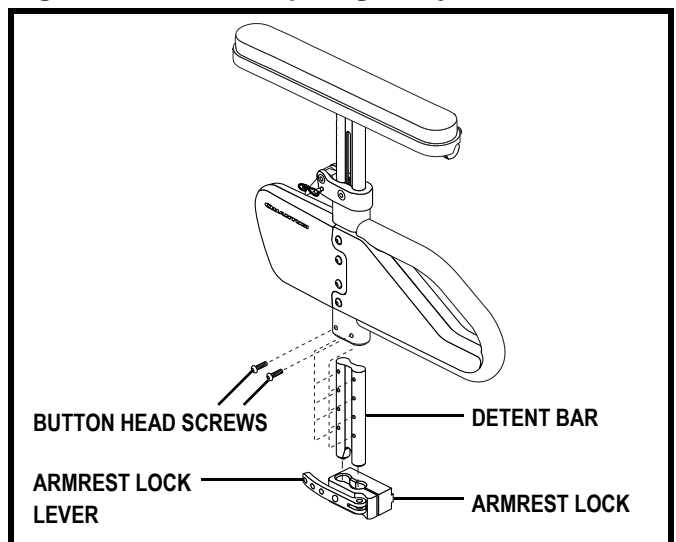

Figure 17. Armrest Bottom Height Adjustment
1. Remove the two button head screws from the detent bar. See figure 17.